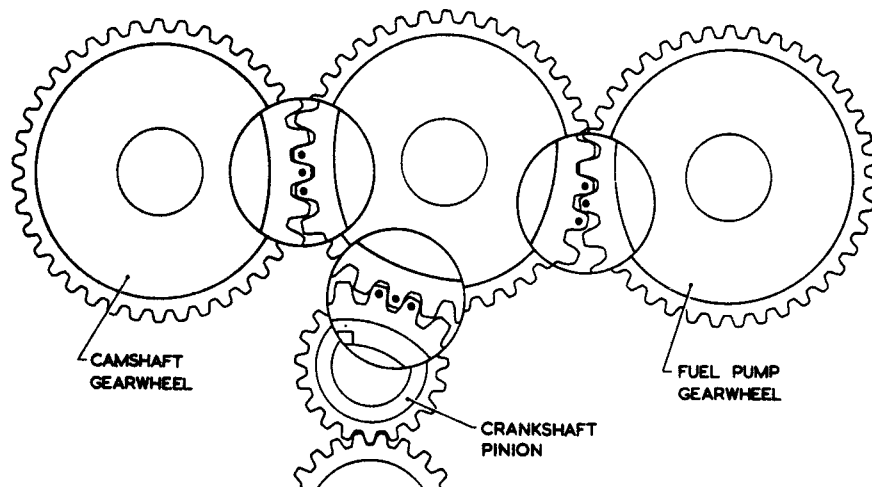

Fig.27. Gear train timing marks
- (11) Bring No. 1 piston to T.D.C. Fit the fuel pump intermediate gearwheel, meshing the timing marks as shown in fig. 27. Check the backlash between the timing gearwheels if new wheels have been fitted.